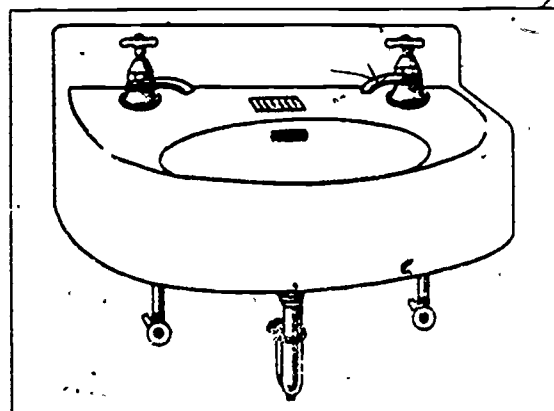

Figure 2-10. Wall-hung lavatory.
**Types of lavatories.** There are many types of lavatories, but the wall-hung and pedestal types are most commonly used. A wall-hung lavatory is illustrated in figure 2-10. Lavatory bowls may be circular, square, or oval shaped. They are usually made of vitreous china but may also be made of cast iron, sheet iron, or stainless steel. Enameled cast iron is probably the most common material used, because it